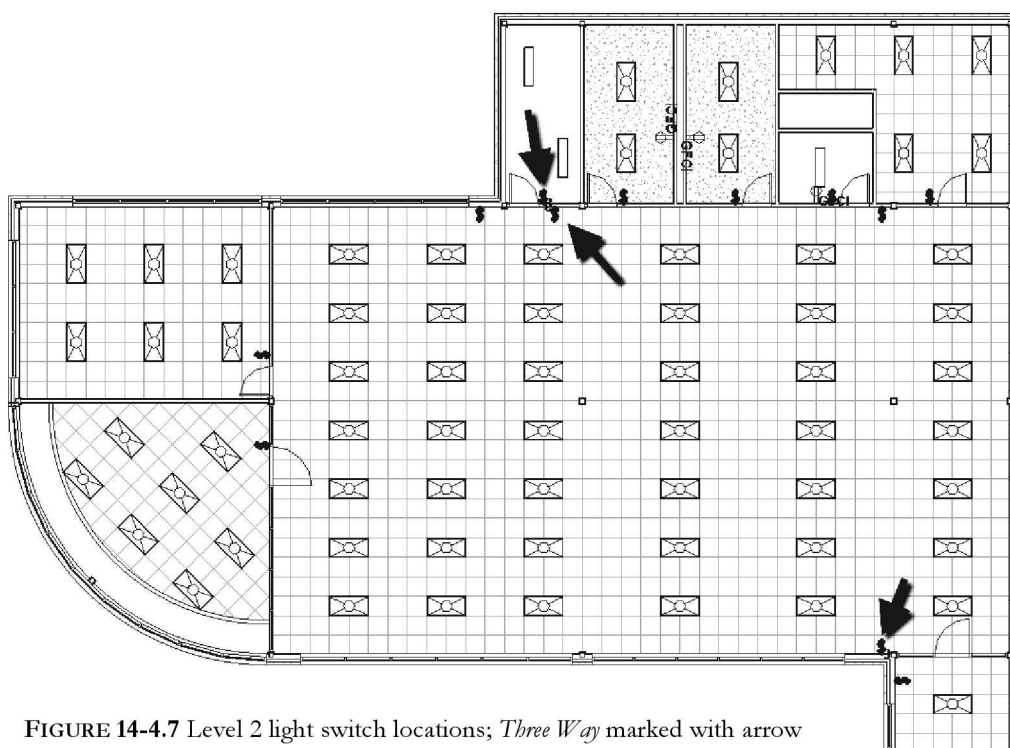

FIGURE 14-4.7 Level 2 light switch locations; *Three Way* marked with arrow
23. Place the light switches on Level 2 per Figure 14-4.7.